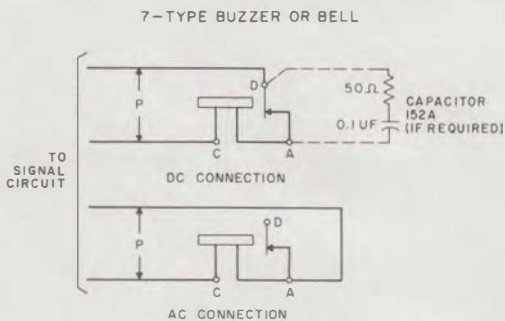

Fig. 23—AC and DC Connections
- 6.05 Connect 7-type buzzers or bells as shown in Fig. 23.
- 6.06 Where radio frequency induction is caused by a sparking buzzer or bell contact, operating power should be ac and connections should be to the ac terminals. A 152A capacitor should be used across buzzer contacts when power supply is dc (Fig. 23).